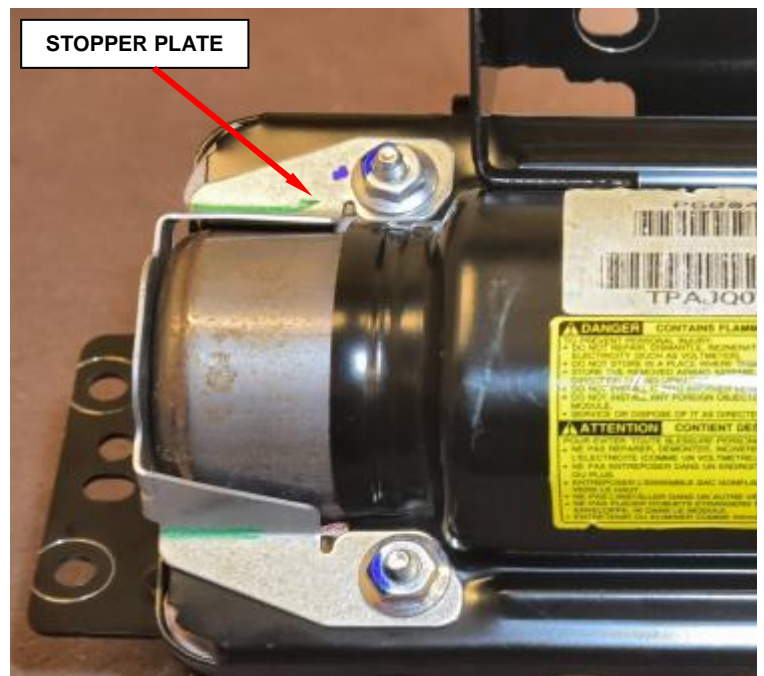

Figure 25 – Stopper Plate
- c. Remove and save stopper plate from housing (Figure 25).